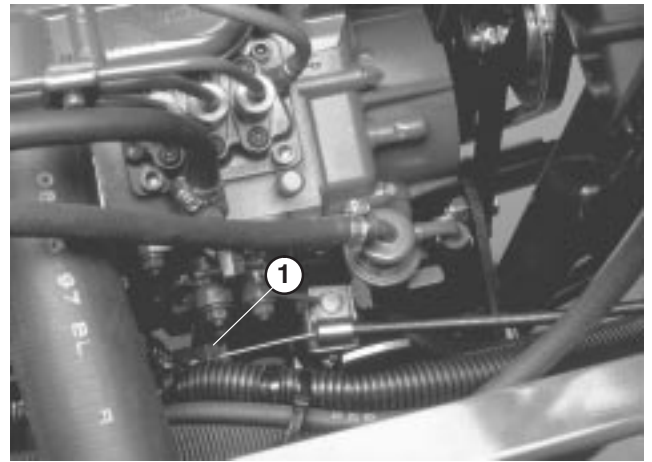

Figure 59
3. Hold the injection pump lever arm (Fig. 59) against the high idle stop and tighten the cable connector.